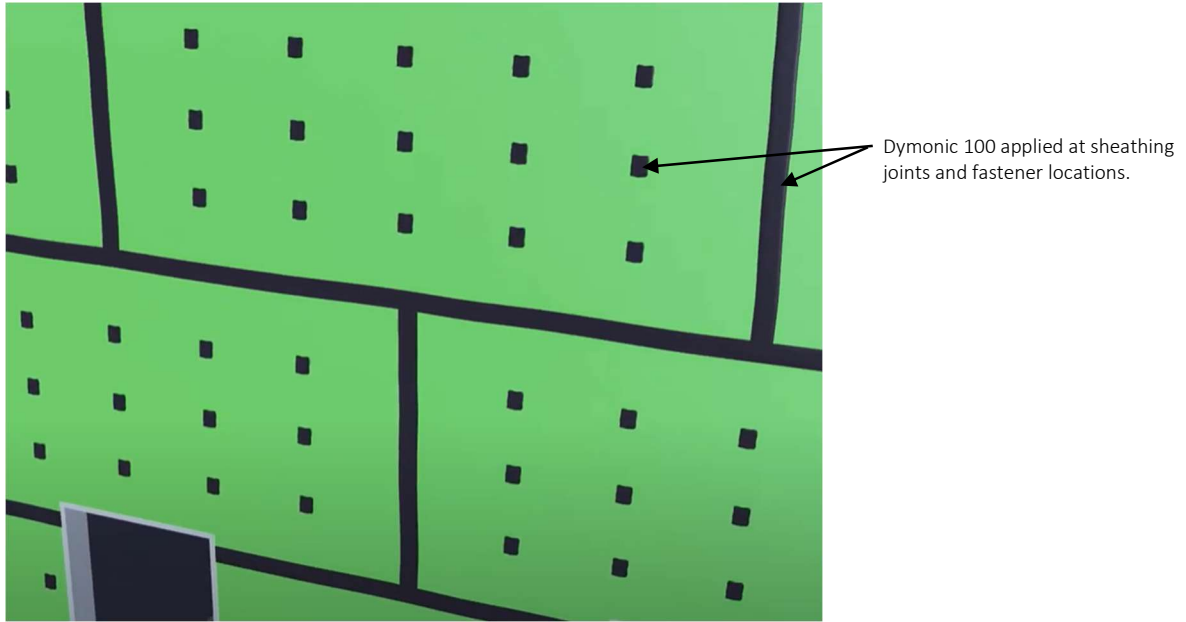

Fig. 21
**NOTE: OSB sheathing requires that joints and fasteners be treated with Backstop NTX – Texture. A minimum of two (2) coats of Backstop NTX – Smooth are required for the field of the wall. Backstop NTX - Texture is not recommended for application in the field of the board.**
B. Tremco Dymonic 100 Option – **Figure 21.**